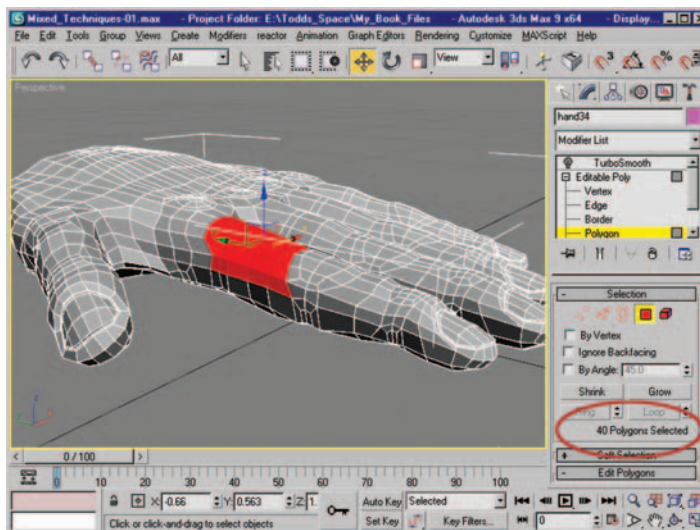

Figure 10.2 Remaining polygon selection after removing 30 polygons.
3. In the perspective viewport, deselect the polygons that compose the lower half of the finger. You should be left with 40 polygons when you are done. You are going to have to rotate around the model periodically to deselect the 30 polygons. Figure 10.2 shows the remaining selection in the viewport along with the poly count highlighted.